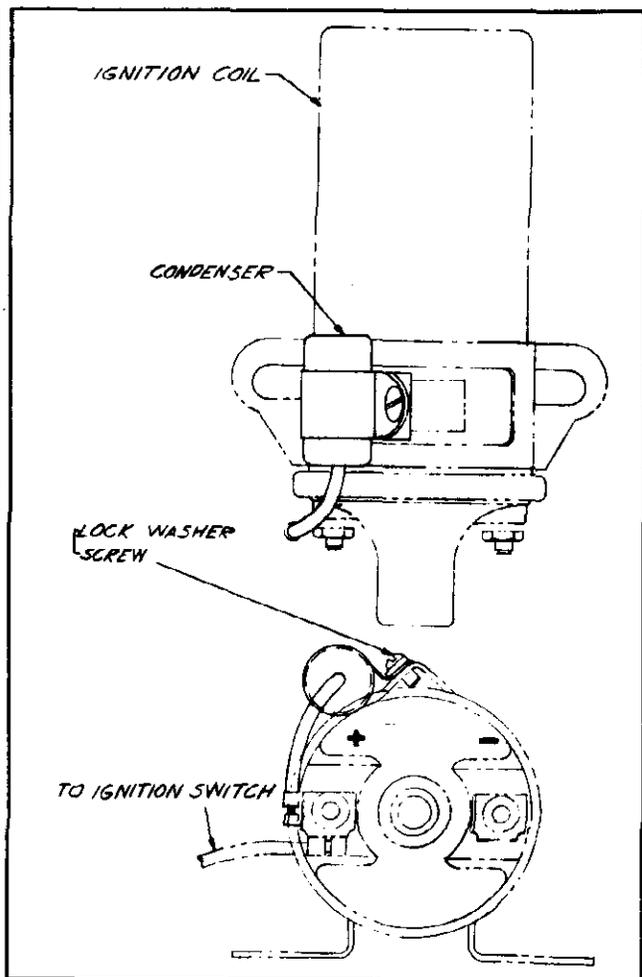

Figure 13
- Mount ignition coil condenser on ignition coil. (See Figure 13.)